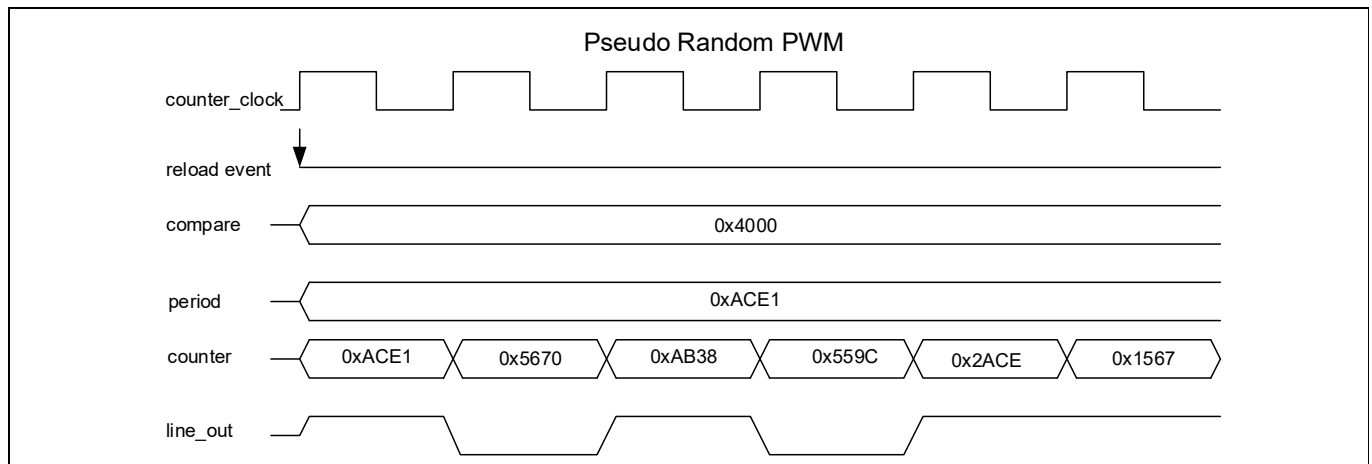

Figure 19-17. Timing diagram for pseudo-random PWM
- CC condition occurs when the counter is running and its value equals compare value. Figure 19-17 illustrates pseudo-random noise behavior.